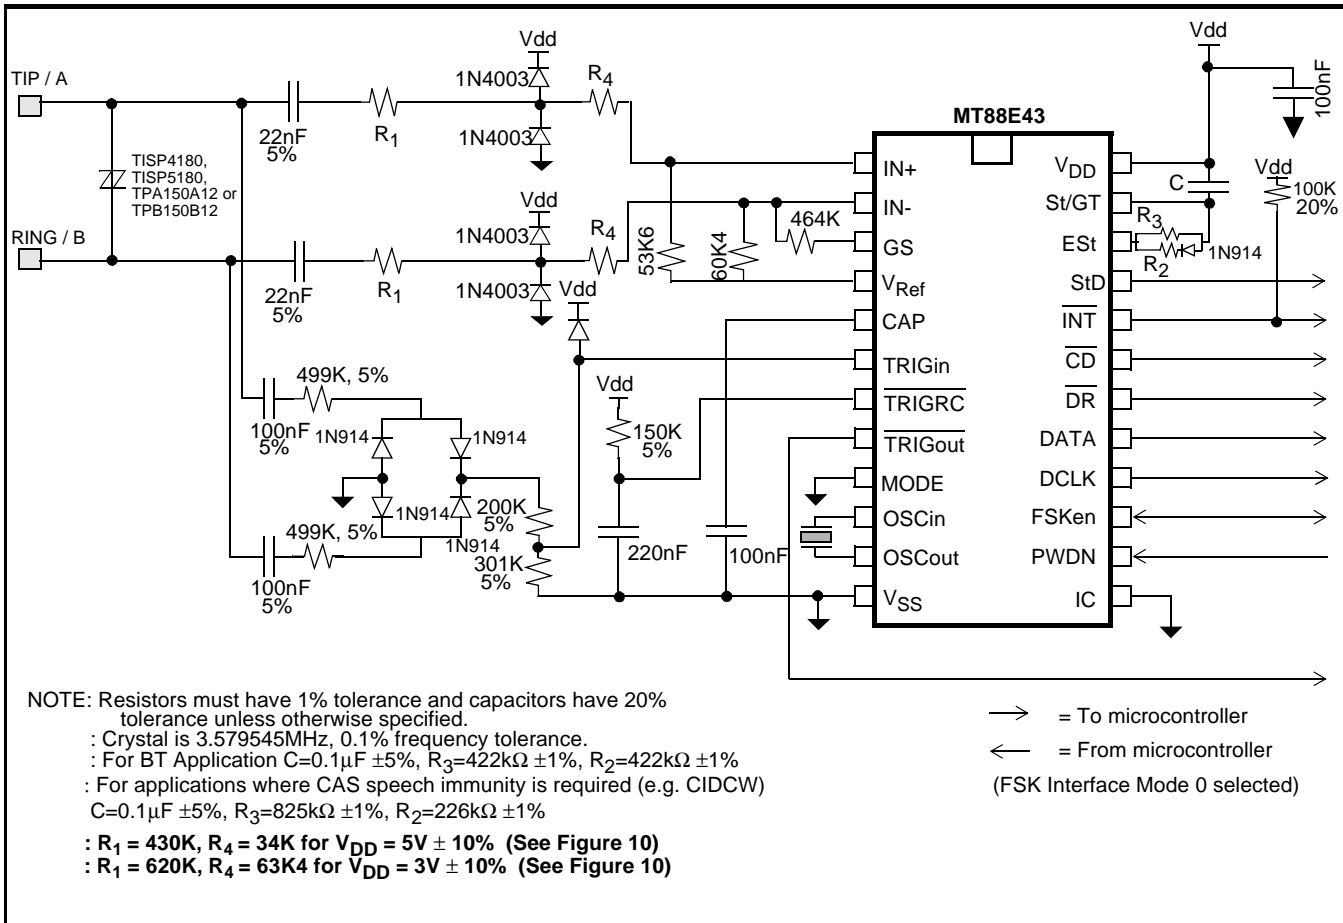
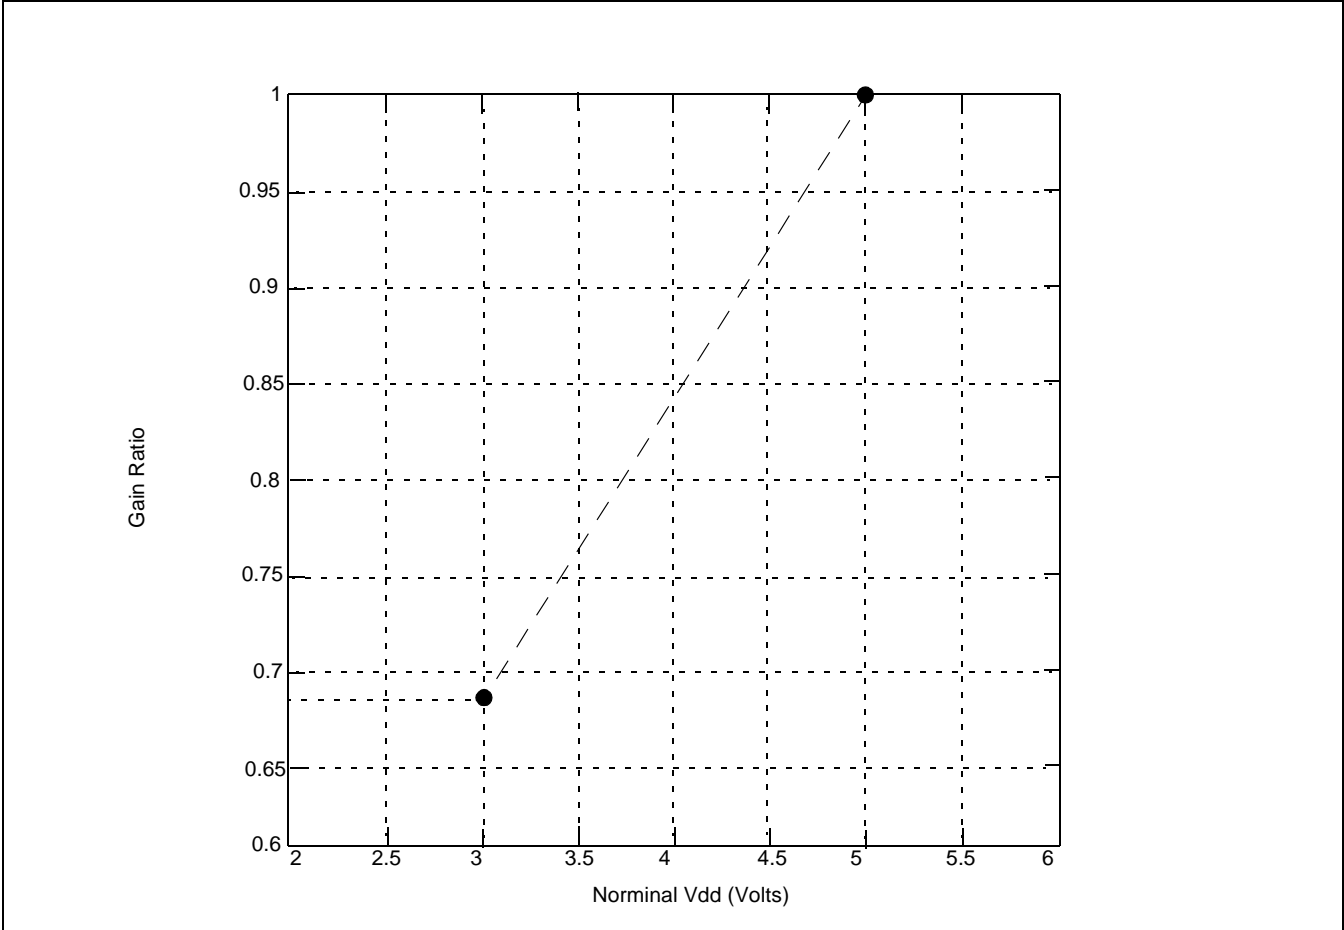

Figure 9 - Application Circuit
Figure 10: Gain Ratio as a function of Nominal Vdd
Figures 9 and 11 ( $R2=R3=422K$ ,  $C=0.1\mu F$ ) will meet the BT timing requirements.
$(A_{Vdiff}) = R5/R1$  (see Figure 9,10,11)
The circuits shown in Figures 9 and 11 are application circuits for the MT88E43. As supply voltage (VDD) is decreased, the threshold of the device's tone and FSK detectors will be reduced. Therefore, to meet the BT or Bellcore tone reject level requirements the gain of the internal opamp should be reduced according to the graph in Figure 10. For example when VDD=5V (+/- 10%), R1 should equal 430kΩ and R4 should equal 34kΩ; and if VDD=3V (+/- 10%) R1 should equal 620kΩ and R4 should equal 63.4kΩ. Resistors R1 and R4 are shown in Figures 9 and 11.
The circuit shown in Figure 9 illustrates the use of the MT88E43 in a proprietary system that doesn't need to meet FCC, DOC, and UL approvals. It should be noted that if glitches on the tip/ring interface are of sufficient amplitude, the circuit will falsely detect these signals as ringing or line reversal.
Note: In the application circuits shown in Figures 9 and 11, the Gain Ratio of MT88E43 opamp is
- With gain setting as shown in Figure 10. Production tested at  $3V \pm 10\%$ ,  $5V \pm 10\%$ .